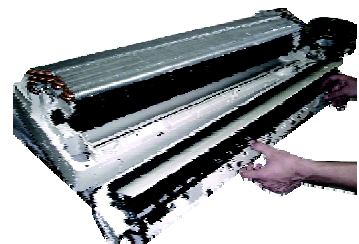

Fig. 9
2. Pull out the discharge grille slightly (Fig. 9)